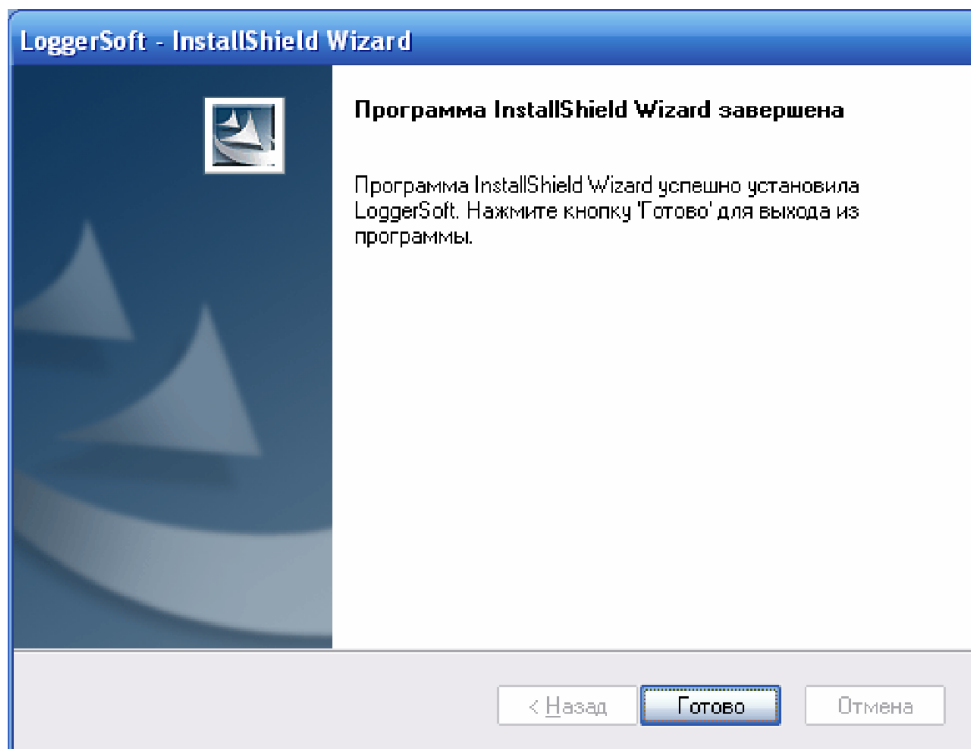

Figure 22. Installing LoggerSoft - step 4.
Step 4 (Figure 22) - displaying the installation result. Click the “Finish” button and the wizard will complete its work.